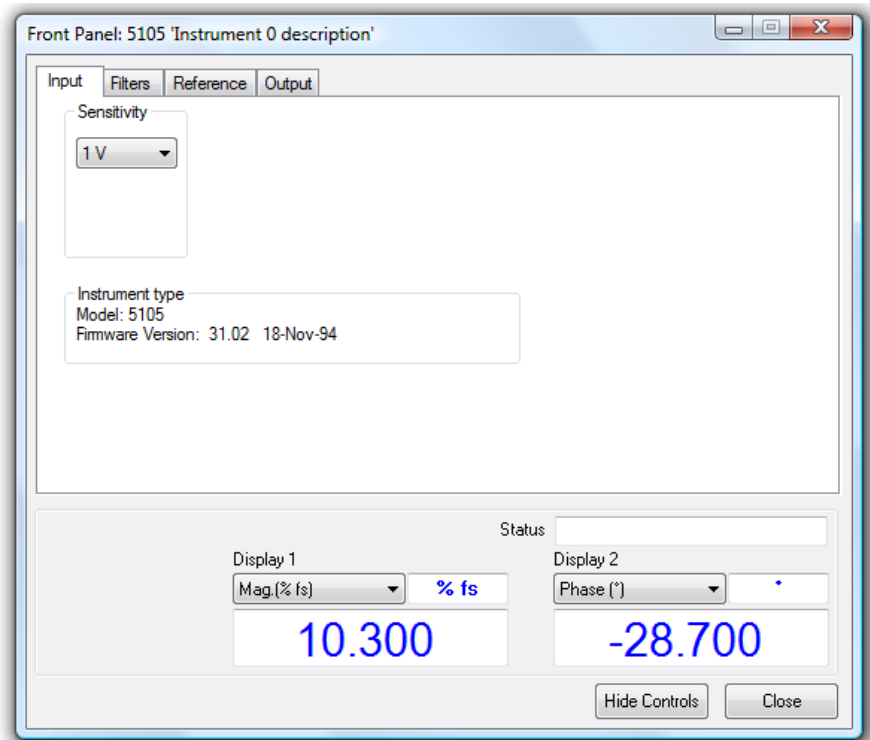

Figure 2-3, 5105Acquire Software Remote Front Panel
panel for the lock-in amplifier. This takes the form of a tabbed dialog box, similar to that shown in figure 2-3, which allows the instrument controls to be adjusted and the measured outputs to be displayed.
- 12) Once the main window is displayed, select the **Hardware, Control 5106 xxxx** menu item (where xxxx is the instrument description), which opens a remote front panel for the lock-in amplifier. This takes the form of a tabbed dialog box, similar to that shown in figure 2-3, which allows the instrument controls to be adjusted and the measured outputs to be displayed.